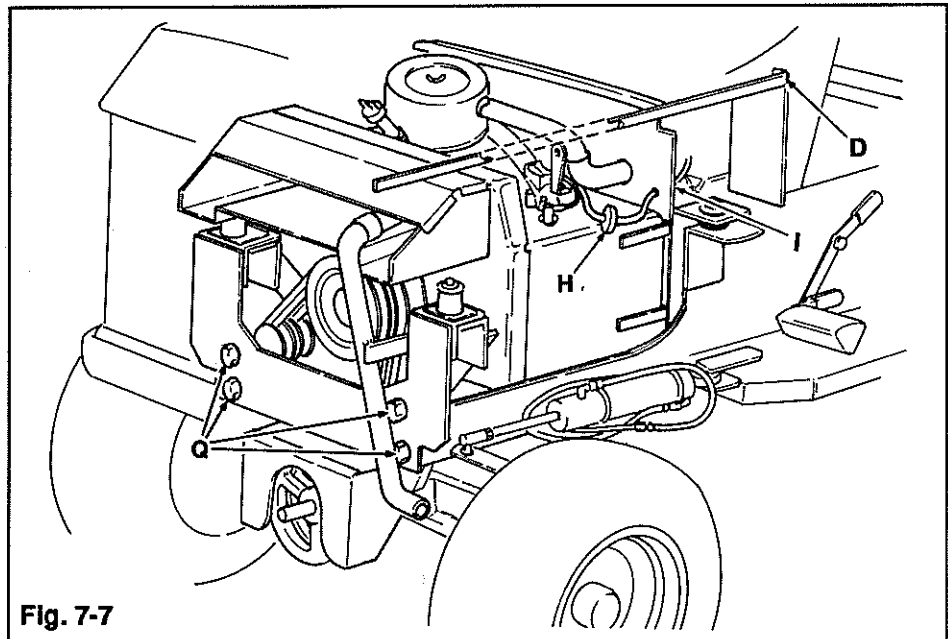

Fig. 7-7
- 10 Position fuel line through heat shield (I Fig. 7-7) and connect to fuel filter (H).
13. Position hood, side panel and grille assembly over front of tractor. Place two 1/4" capscrews into grille supports at the instrument panel support (D, Fig. 7-7). Lift front of assembly and install four 3/8" capscrews into front engine mount and bumper (Q). Tighten all hardware.